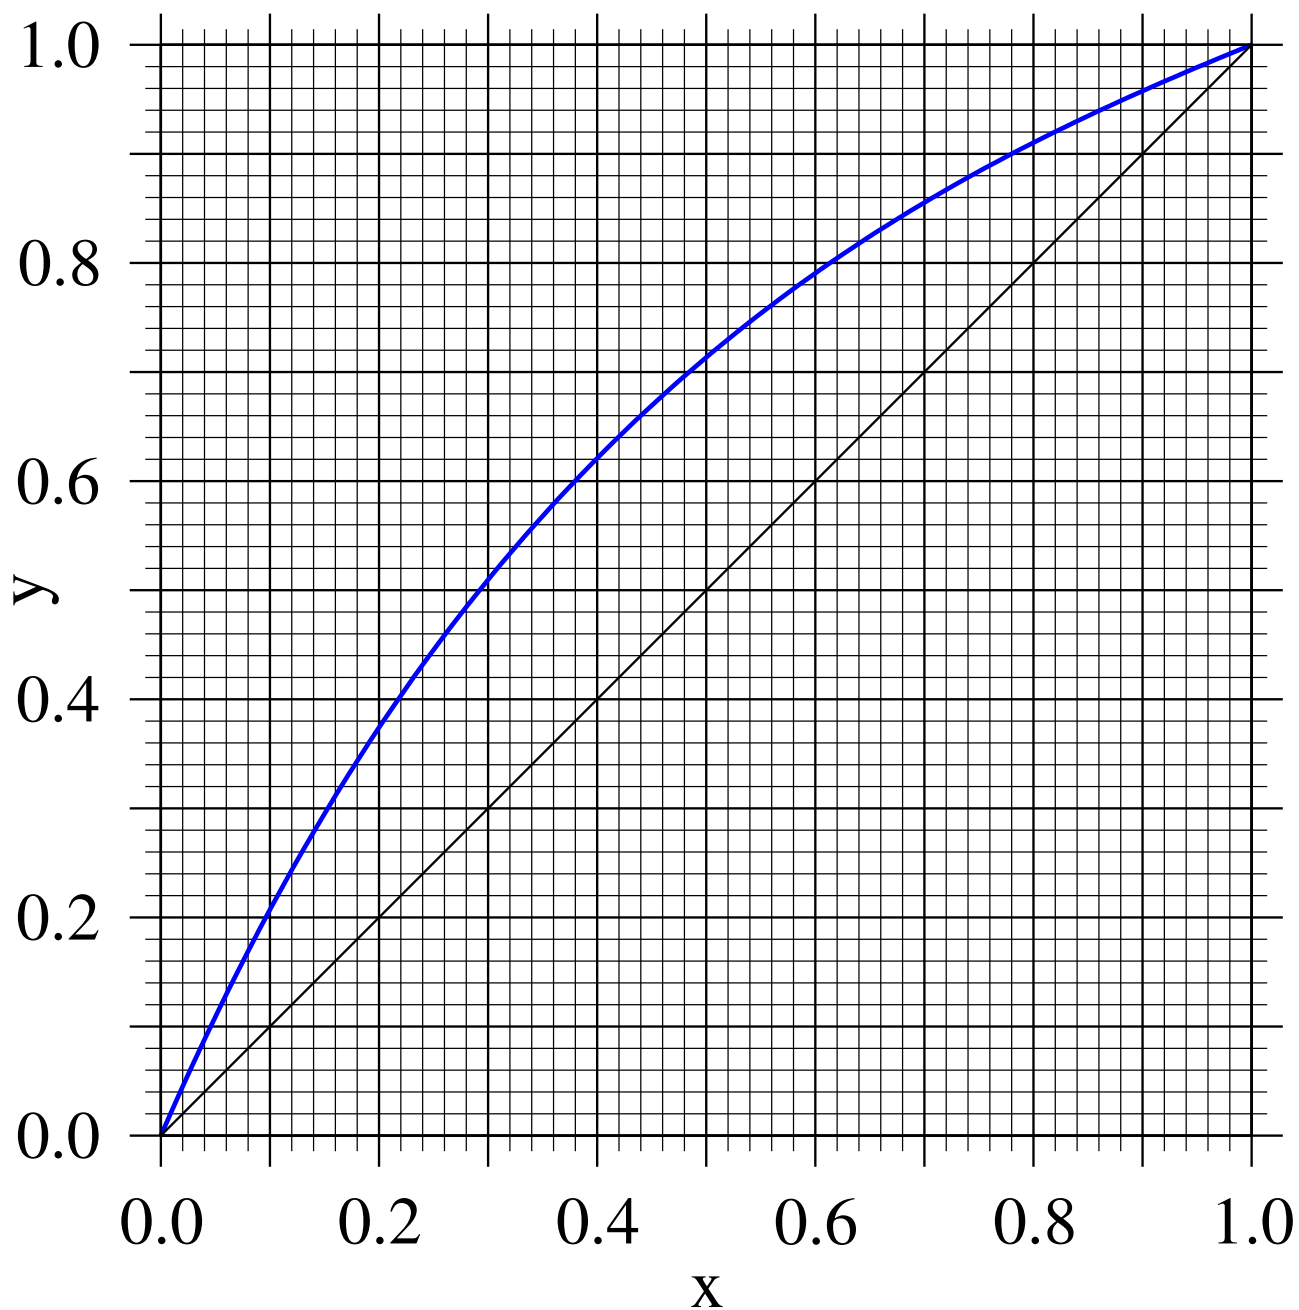
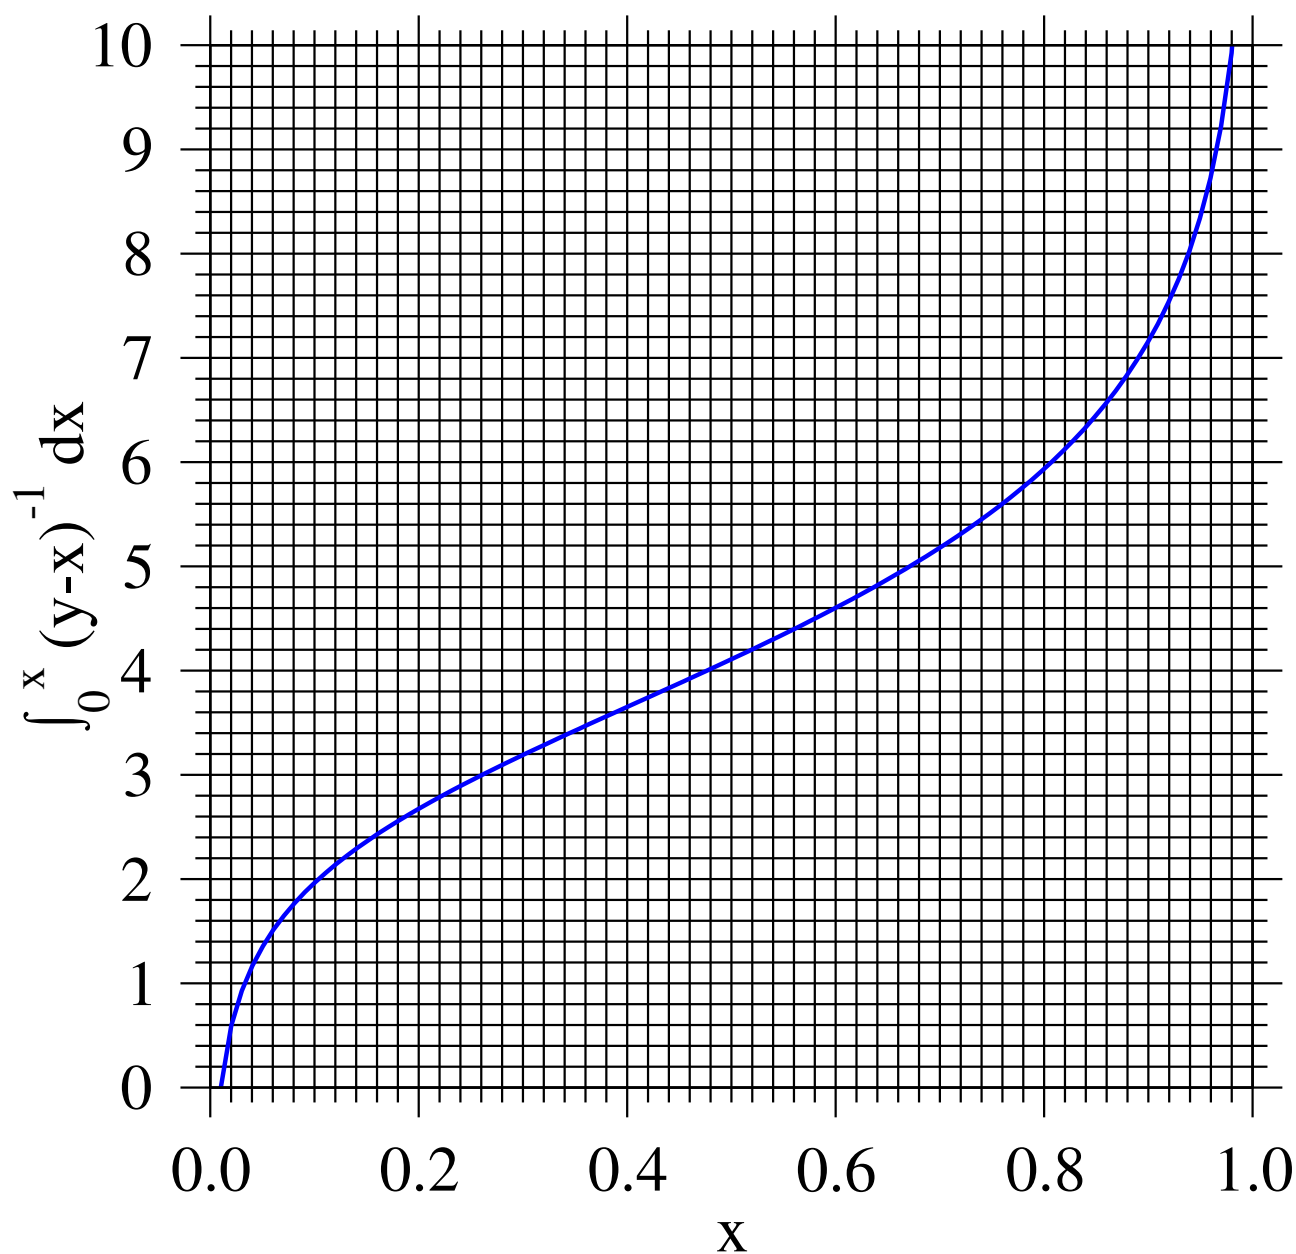

Figure 12: VLE data for benzene(x/y)-toluene mixtures. For use in Q. 5.19, 5.20, and 7.30.
Figure 13: Integrated VLE data for benzene(x/y)-toluene mixtures. For use in Q. 5.19 and 5.20.
a) What is the outlet concentration of the vapour and liquid streams from a flash drum? The flash drum is operated so that only 20% of the feed stream is vapourised.  $x$ - $y$  VLE data is available in Fig. 12. **[7 marks]**
b) What is the average vapour concentration and the final liquid concentration if the same feed is supplied to a single-stage batch still instead? You should assume the same proportion of vapour is produced as in the flash drum. Integrated VLE data is available in Fig. 13 for this calculation. **[8 marks]**
A 10,000 kmol benzene-toluene mixture is sent for batch distillation at atmospheric pressure. Integrated VLE data is available in Fig. 13 and standard VLE data is available in Fig. 12.